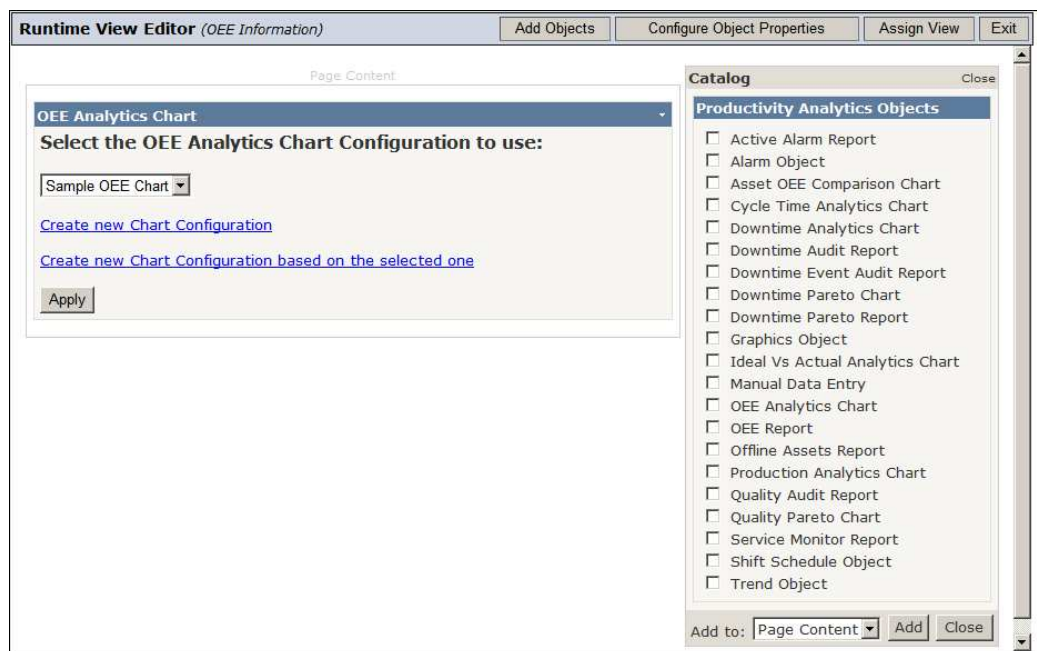

Figure L8.2 - New OEE Analytics Chart
7. Click on the Add button. Your page should now look like Figure L8.2.